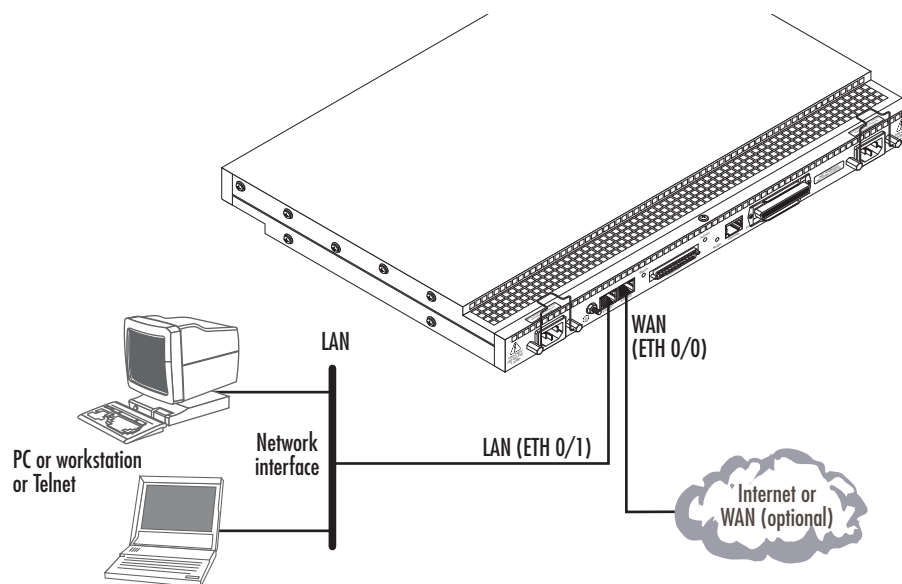

Figure 15. Connecting the SmartNode to the network
2. **Connecting the SmartNode to the network** (see figure 15). Refer to section “1. Configure IP address” on page 38 for details).